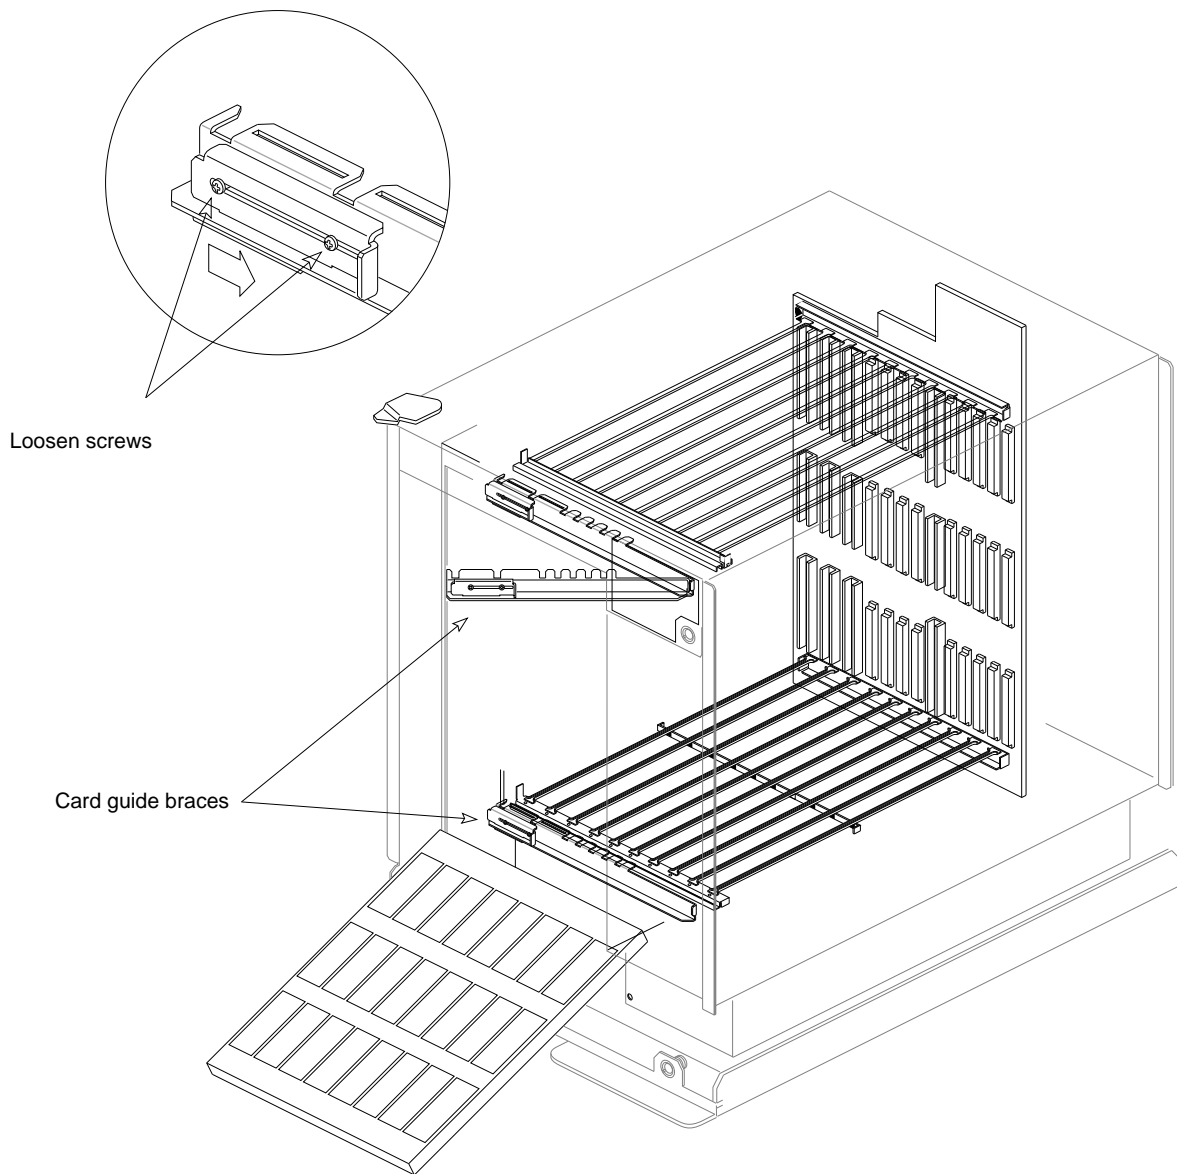

Figure 5-83 Removing the Board Brace
5. Remove the two board braces (013-0578-xxx) that secure the top and bottom of the system boards by loosening the Phillips screws and moving the slide bar to the right. You can then pull out the braces (see Figure 5-83).
5. braces (013-0578-xxx) that secure the top and bottom of the system boards by loosening the Phillips screw and moving the slide bar to the right. You can then pull out the braces (see Figure 5-83).